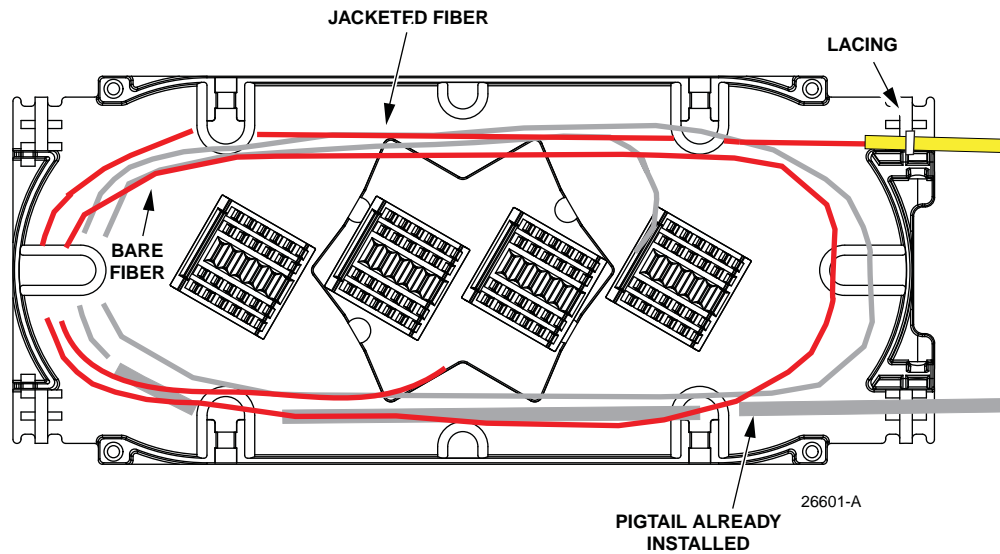
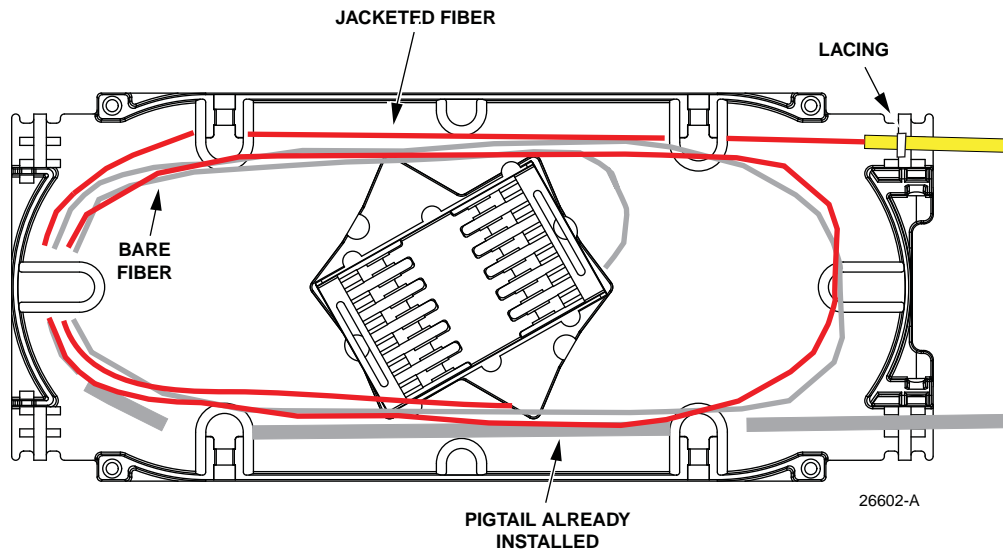

Figure 35. Stranded IFC/OSP Fiber Splice Tray Routing
Figure 36. Ribbon IFC/OSP Fiber Splice Tray Routing
5. If splicing is to be completed later coil the buffer tubes around the radius limiters on the bottom of the panel and close rear cover. If splicing at the present time, follow local practice to complete the splices. Route the IFC/OSP fibers within the splice tray as shown in Figure 35 for stranded fiber and Figure 36 for ribbon fiber.